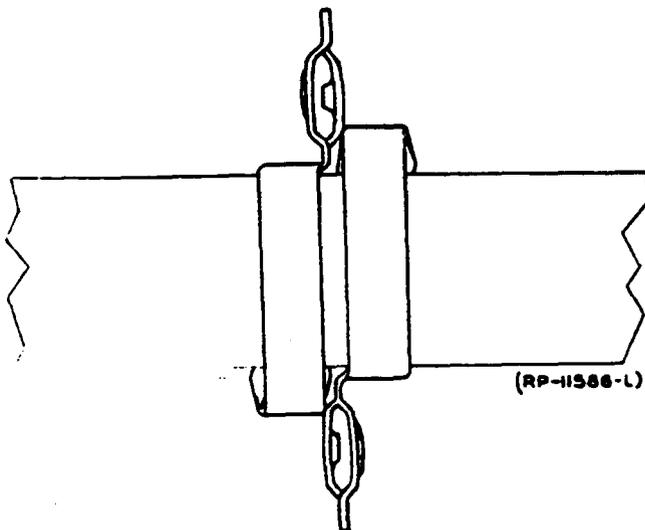

FIG. 3 PLACING ADJACENT ANCHOR CLIPS FOR TWO RUNS ON SAME CABLE RACK (PAR. 4.1411)
3.1411 Where the initial cables on the run were clipped starting at the center of the strap, or where due to unusual job conditions, cable runs must be started at both sides of the rack, arrange the clips to avoid interference where the cables meet. Placing the anchor clips in opposite directions at each side of the rack will result in clips being on opposite sides of the cable rack strap and will avoid interference. A minimum of space between the two runs will result when the inside anchor clips are placed as illustrated in Figure 3.